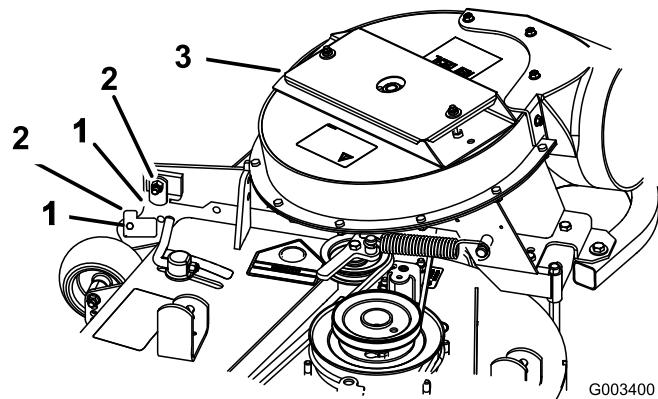

Figure 16
3. Close the blower assembly to see if the latches are adjusted correctly. Loosen or tighten the bolt so the latches firmly hold the blower assembly against the mower deck, but can be released by hand (Figure 16).